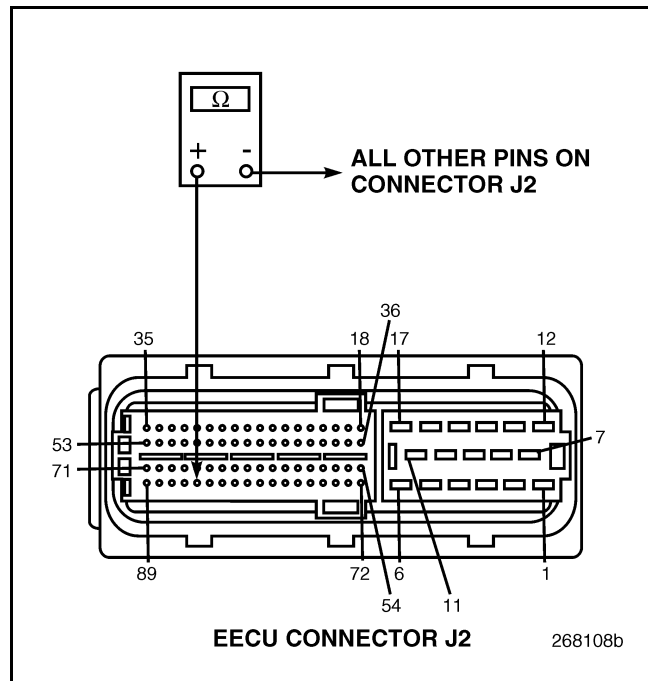

Figure 826
4. Check for continuity between EECU harness connector J2 pin 85 and all other pins on EECU connector J2 (see Figure 826).